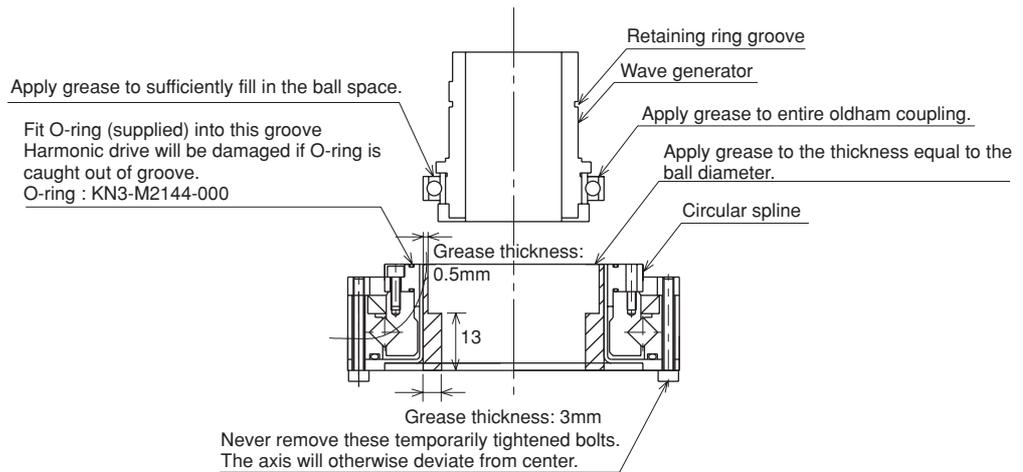

Fig. 5-51
- 14) Apply harmonic grease to the new wave generator. See Fig. 5-51 for applying grease properly.
- 16) Apply the remaining harmonic grease to the circular spline. See Fig. 5-51 for applying grease properly.
- 17) Fit an O-ring (supplied with the harmonic drive) coated with harmonic grease into the O-ring groove on the new harmonic drive. (See Fig. 5-51.) Apply small amounts of "Screw Lock" to the bolts (M3×30L, 13 pieces) and tighten them to secure the harmonic drive to the Y-axis arm from the top of the Y-axis arm. (See Fig. 5-50.)